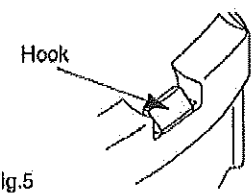

Fig.5
4. Make sure place the three hooks into the position on the shield as shown on Fig.5.